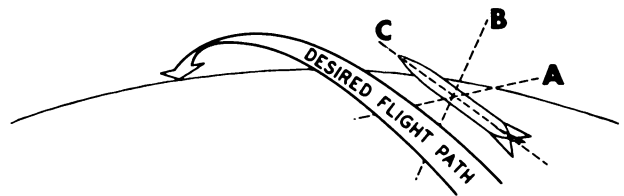

Figure 3M.
● The missile shown in figure 3M has an inertial guidance system that includes three mutually perpendicular double-integrating accelerometers. Accelerometer A is mounted with its sensitive axis parallel to the direction labeled A. Accelerometer B is mounted with its sensitive axis parallel to the direction labeled B. Accelerometer C is mounted with its sensitive axis parallel to the direction labeled C.
63. From which of the following signals does the guidance system of the missile shown in figure 3M determine the distance traveled in range?
64. Which of the accelerometers mounted in the missile shown in figure 3M could be replaced by a barometric altimeter?
65. How must accelerometers A and C be mounted in the missile shown in figure 3M if they are to function properly?